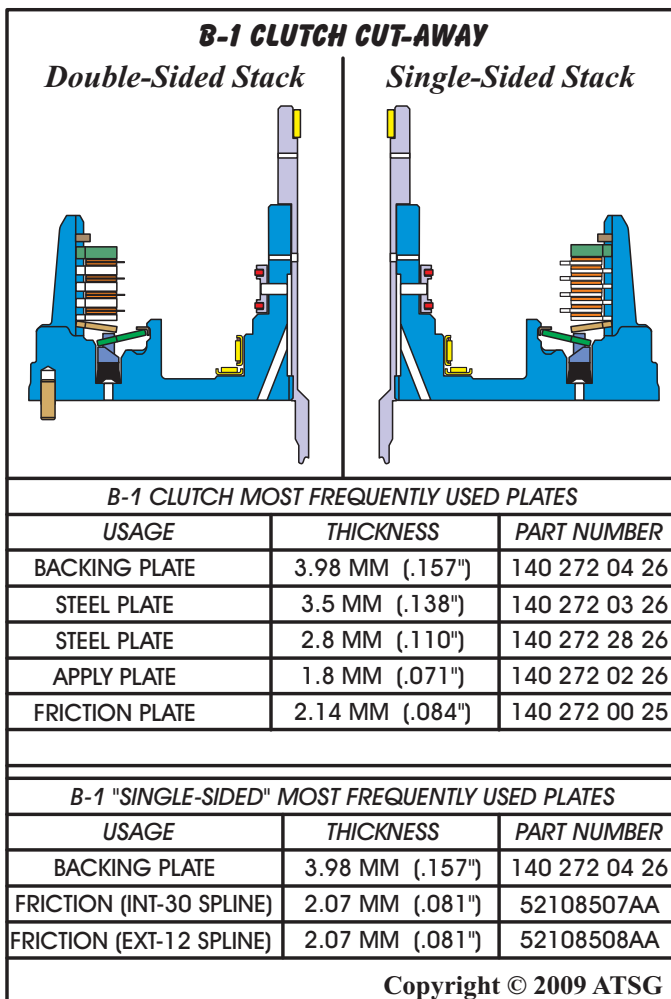

Figure 82
52. We have provided you with frequently used part numbers for the clutches in Figure 82. Keep in mind that part numbers can change without notice.